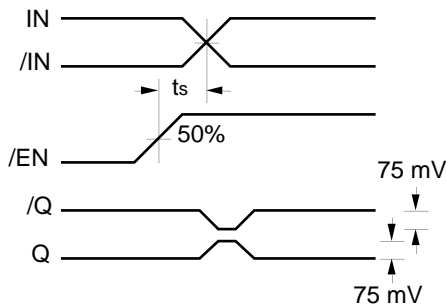

Figure 1. Set-up Time
- The set-up time is the minimum time that /EN must be asserted prior to the next transition of /IN/IN to prevent an output response greater than  $\pm 75\text{mV}$  to that /IN/IN transition (see Figure 1).